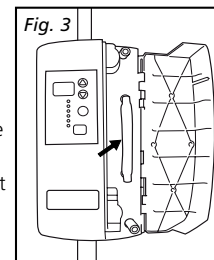

Fig. 3
- Take the 4 inch bypass tube with 90° barb fittings (Bypass Tube A) and wipe the ends with an approved disinfectant wipe. Press firmly into the inner cartridge connection ports (water circuit). (Fig. 3)